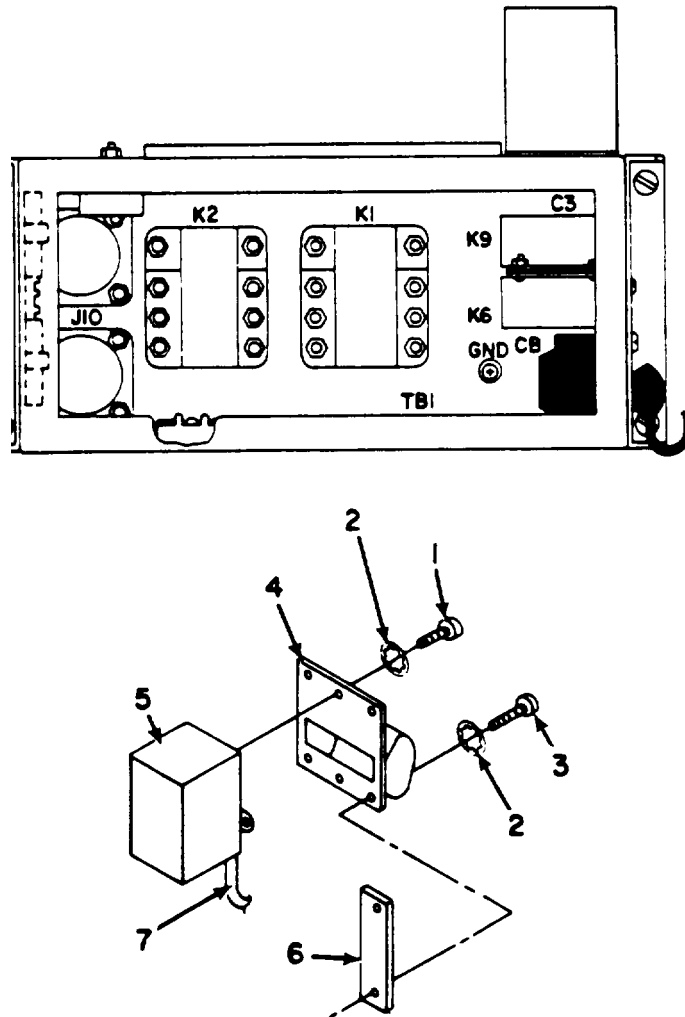

Figure 4-22. Circuit Breaker (CB).
3. Remove and tag all leads from circuit breaker (Fig 4-22, item 5).
4. Remove four screws (1) and lockwashers (2) and circuit breaker (5).
5. Remove two screws (3) and lockwashers (2) and cover (6).
6. Remove guard (4) by compressing outside and pulling in through hole.